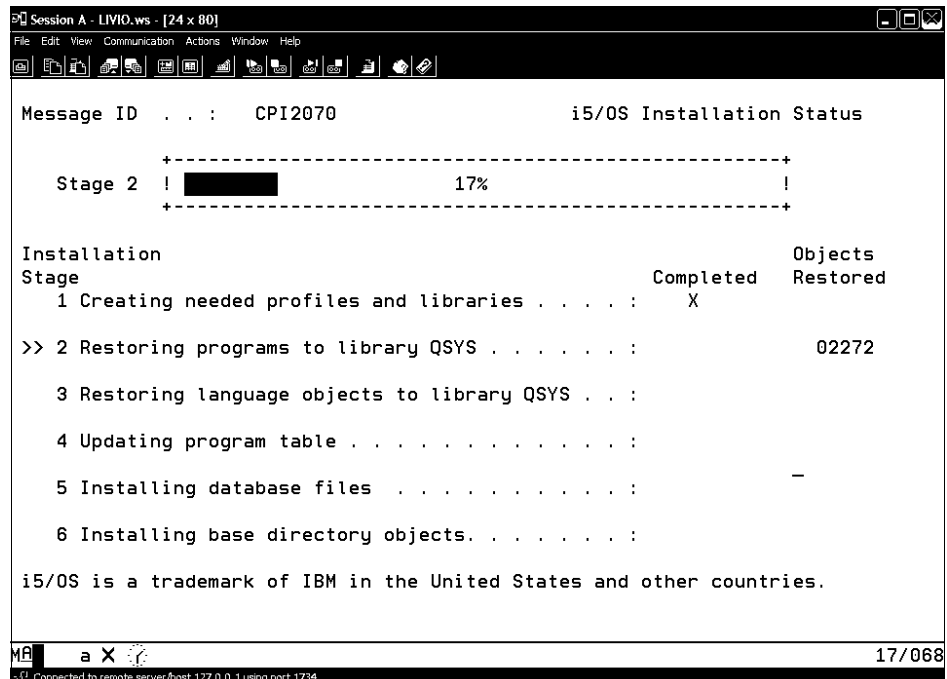

Figure 7-65 Installation status
7. Figure 7-65 on page 310 shows an example of a status display in the operator console during the installation process. No further action required. Note that the display will be blank for a while between Installation Stage 4 and 5.